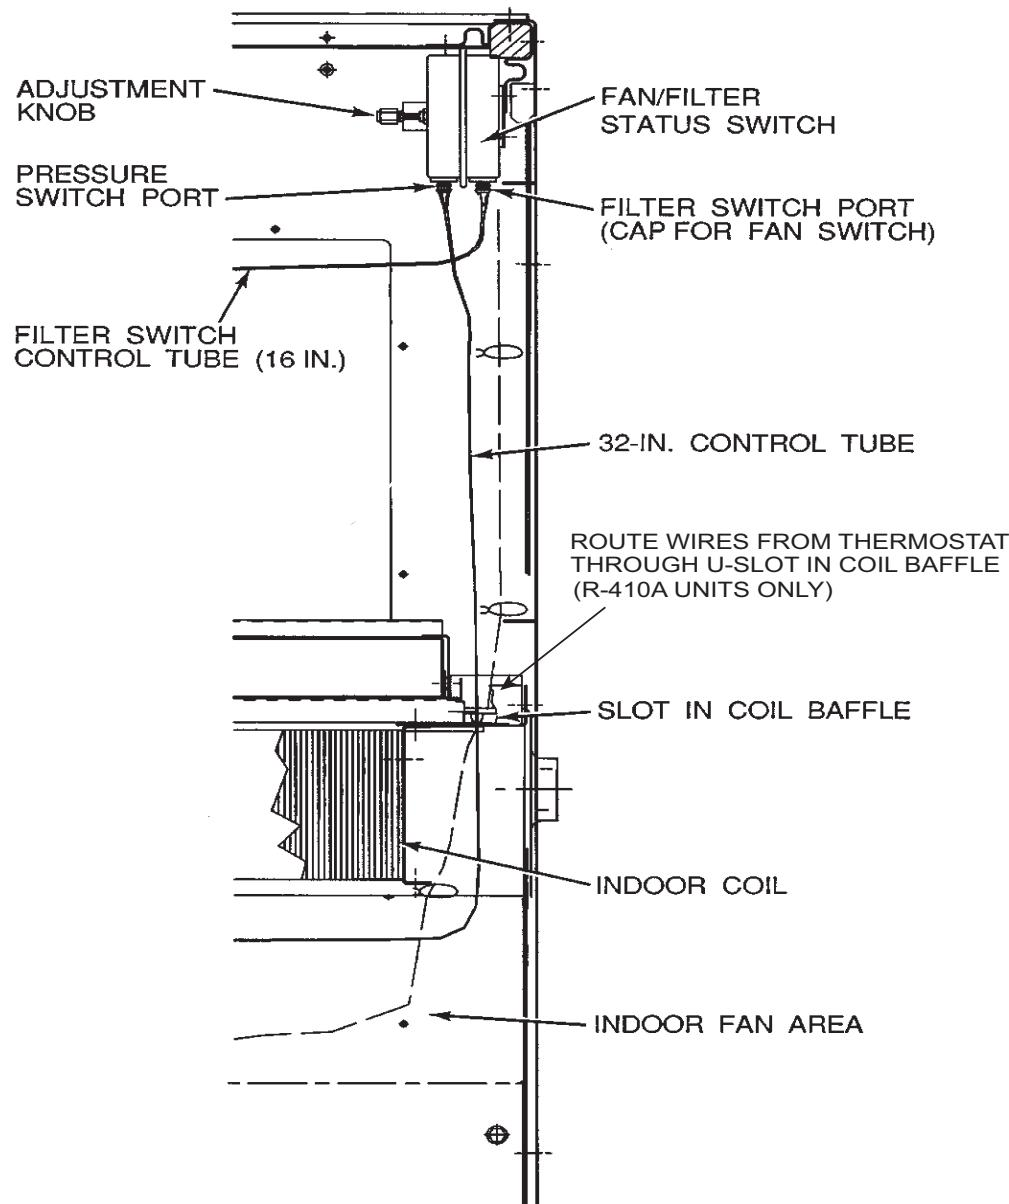

Fig. 1 — Fan/Filter Status Switch Installation (Top View of Typical Rooftop Unit Shown)
3. Remove the pressure switch assembly from the carton. Attach the 32 in. plastic control tube to the pressure switch on the port nearest to the electrical connections. (See Fig. 1.)
Attach the 16 in. plastic control tube to the pressure switch on the port nearest to the mounting bracket. (See Fig. 1.)
Attach the plastic cap to the pressure switch on the port nearest to the mounting bracket. (See Fig. 1.)
5. Attach the pressure switch assembly to the uppermost portion of the inner flange of the corner post with the 2 screws provided. (See Fig. 1.)
6. Route the 32 in. control tube through the slot in the coil baffle next to the harness assembly. The end of the control tube should be loose in the indoor fan area. (See Fig. 1.)
Suspend the 16 in. control tube over the return air opening. (See Fig. 1.)
8. For units without DDC controls route and connect the digital indicator wires coming from the thermostat to the terminals on the pressure switch. (See Fig. 1 and 2.)
Place the unit in Fan Only mode. The unit return air filter should be clean or new. Using a flat head screwdriver, rotate the adjustment knob until the pressure switch closes. (See Fig. 1.) After the pressure switch closes, rotate the adjustment knob 1/4 turn in the same direction.